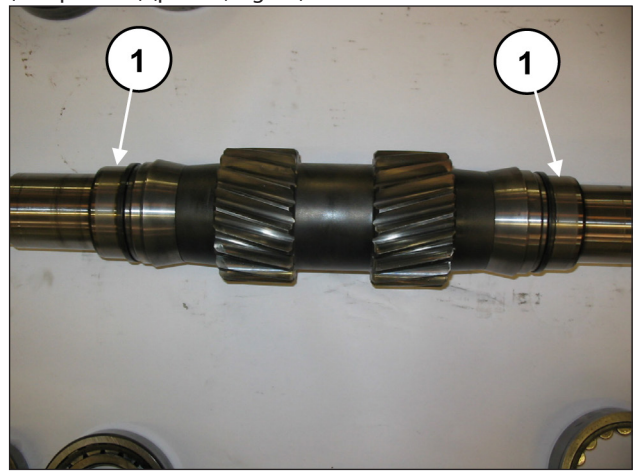

Fig. 52
Onto the PTO shaft, slip on the 2 internal rings of the bearings (one per side) (pos. ①, Fig. 52).